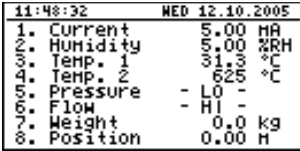

Fig. 6.8. "Channels list" mode (values)
- "Channels list" mode (Fig. 6.8, 6.9) enables the measurement results for all active measurement channels to be viewed in numeric or graphic (bar) form.